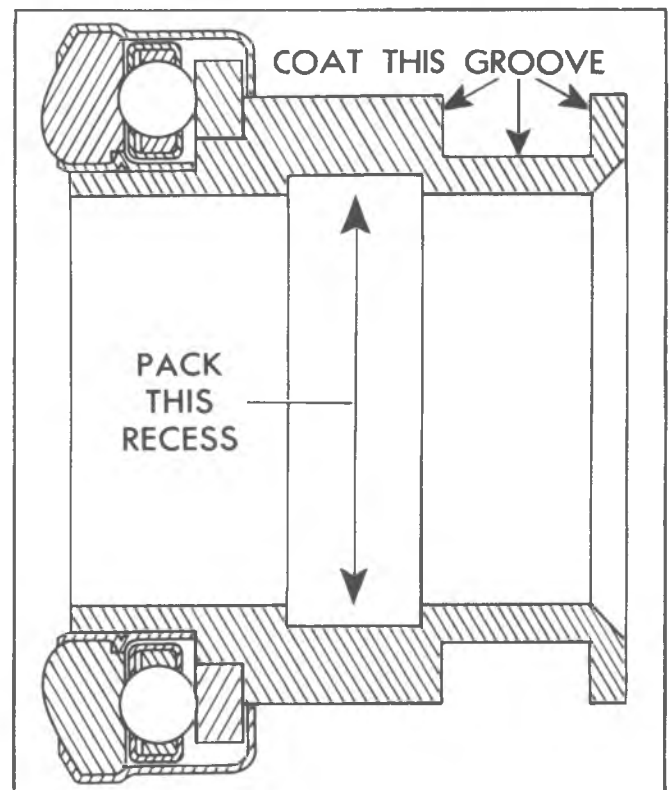

Fig. 9—Lubrication Points on Clutch Throwout Bearing
10. Pack lubricant in the recess on the inside of the throwout bearing collar and coat the throwout fork groove with a small amount of graphite grease (fig. 9).
7. Pack lubricant in the recess on the inside of the throwout bearing collar and coat the throwout fork groove with a small amount of graphite grease (fig. 9).